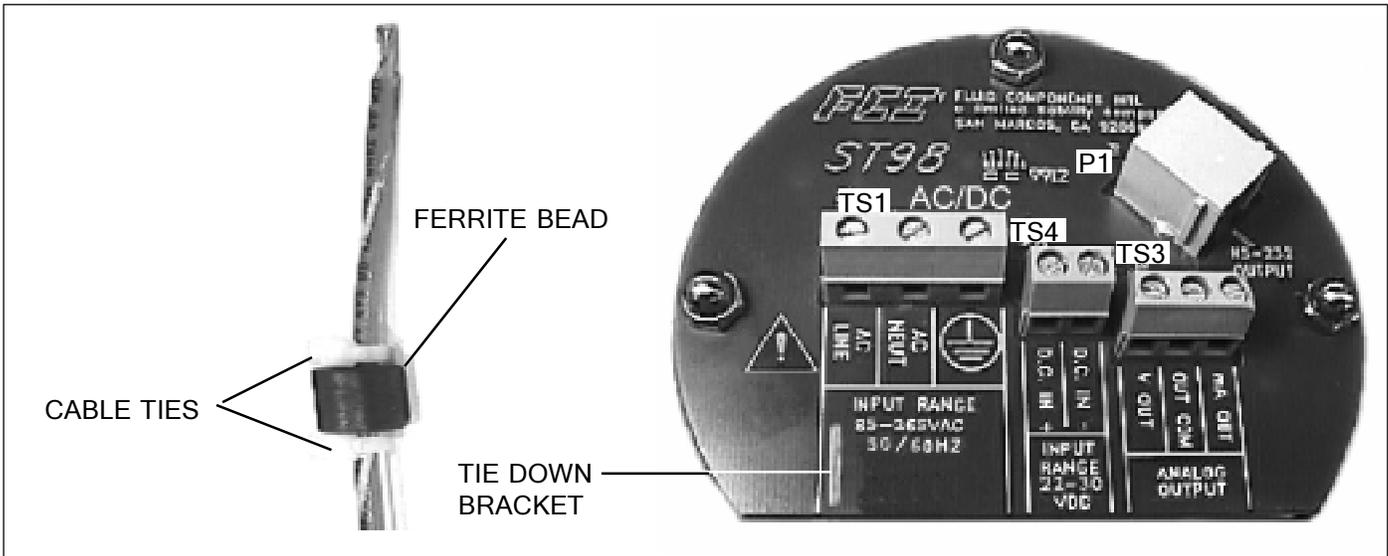
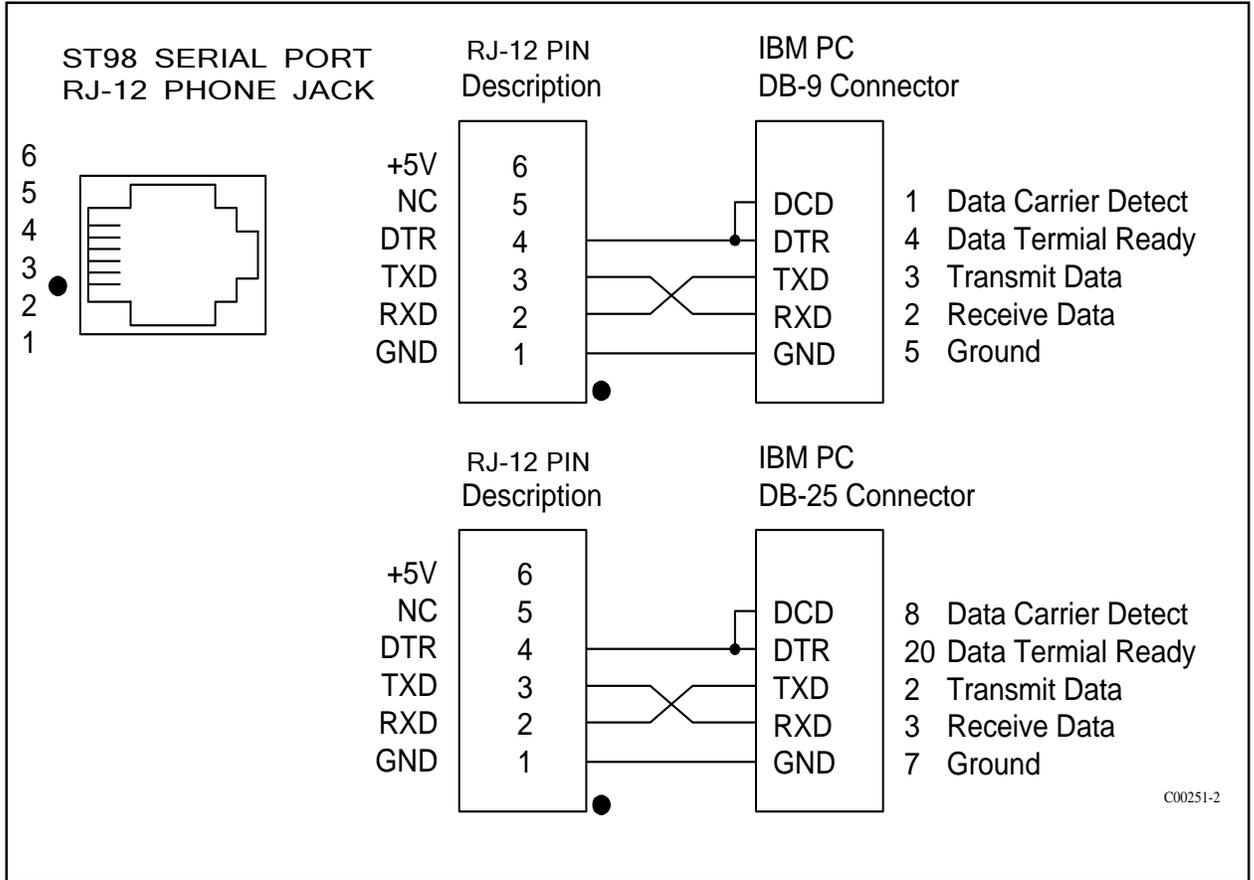

Figure 2-4. Customer Connection Board
Figure 2-7. Wiring Diagram, DB-9 and DB25 PC Connectors
3. Connect the milliamp and/or DC voltage output to the termination (customer connection) board as required. Refer to Figure 2-4 for connection information.
4. Connect the operating power to the customer termination board by removing the input wiring kit from the strain relief bracket (see Figure 2-4 for the bracket location). This kit contains a filter bead and three cable ties. For remote instruments only, the kit also contains 2 wire terminals for a ground wire to be placed between the flow element enclosure and the electronics enclosure.
6. Attach the filter bead over the safety ground wire as shown in Figure 2-4 using 2 cable ties to secure the bead on the wire. The last cable tie should be about 3 inches from the end of the wire.
7. Attach the power wires to Terminal Strip TS1 (for AC) or TS4 (for DC) as shown in Figure 2-4. Secure the wires going to the Terminal Strip with a cable tie, secured to the cable tie bracket on the customer connection board.
Note: Connecting the shield in any other way will decrease the accuracy of the instrument. See Figure 2-4 for the wiring diagram.
Caution: Be sure an earth ground wire is connected to the ground terminal (see Figure 2-4). On a remote configuration, connect an earth ground wire to the ground screw in the local enclosure. This is for the purpose of safety.
Caution: Be sure a grounded wire is connected to the ground terminal (see Figure 2-4) or to the enclosure ground screw. This is for the purpose of safety.
The RJ-12 (P1) connector on the customer connection board provides RS-232 communication with the user. An FC88 Communicator can be plugged in for periodical re-configuration and/or diagnostics, or personal computer can be plugged in instead of the FC88 Communicator. See Figure 2-4 for the location of P1. This connection is a RJ-12 communication (phone) jack. Figure 2-7 represents the connection between the serial port and the host device.